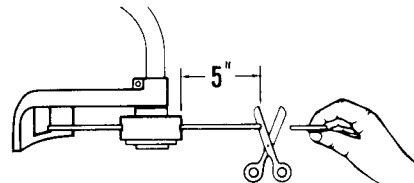

Figure 8-2F
8. Trim the excess line to approximately 5 inches. This will minimize load on engine during starting and warm-up. (Figure 8-2F)